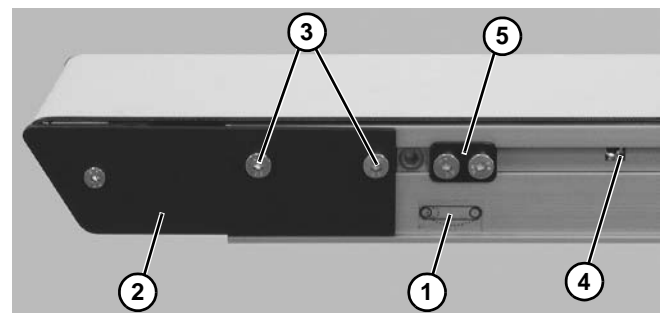

Figure 42
- On tension end of the conveyor, identified with a  label (**Figure 42, item 1**), adjust head plate assembly (**Figure 42, item 2**): On both sides of conveyor, loosen fastening screws (**Figure 42, item 3**) and rotate pinion gear (**Figure 42, item 4**) to adjust head plate assembly.
- After adjusting proper tensioning, tighten fastening screws (**Figure 42, item 3**) on both sides of conveyor to 60 in-lb (7 Nm).
- If equipped with cam tracking assemblies (**Figure 42, item 5**) position against head plates and adjust belt tracking. Refer to "Conveyor Belt Tracking", next section.